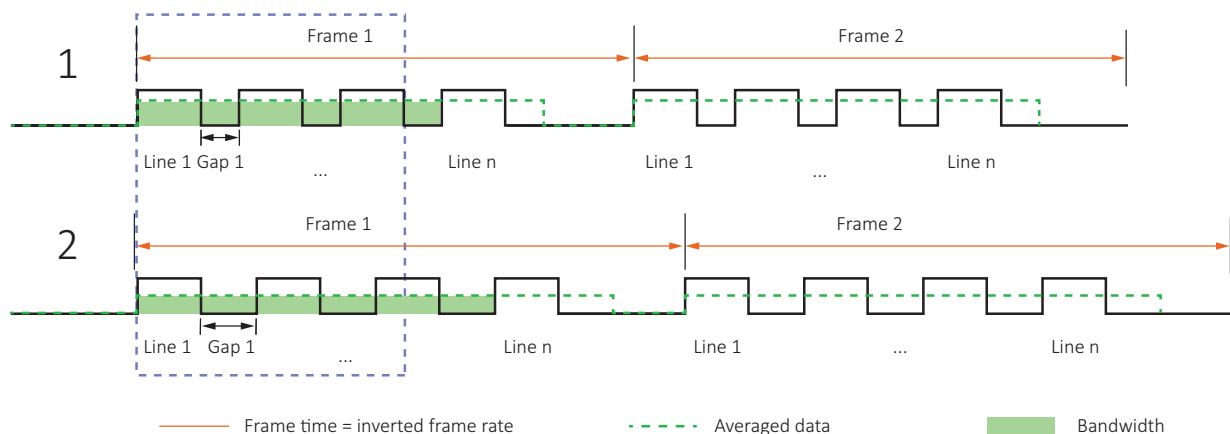

Figure 76: Sensor data output and camera data output
Figure 76 shows the bandwidth for a higher (1) and a lower (2) value for `DeviceLinkThroughputLimit`.